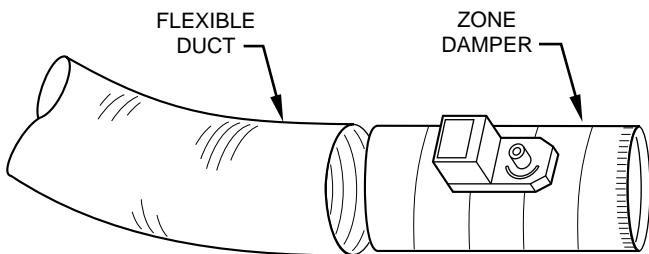

Fig. 12—Round Flexible Duct Work A95132
1. Slip 1 end of flexible duct work over 1 end of zone damper. (See Fig. 12.)